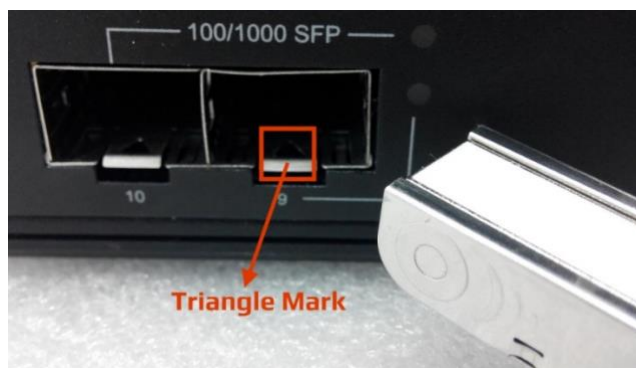
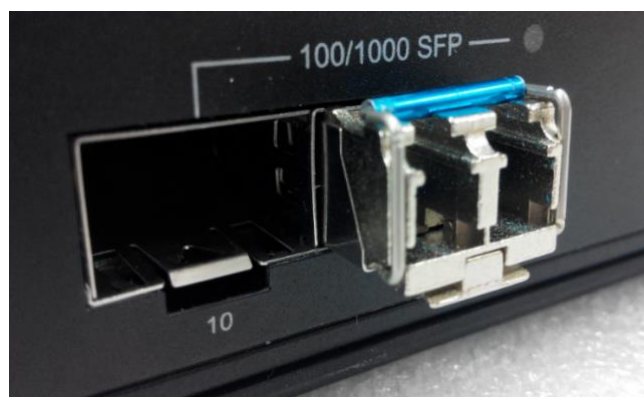

Figure 2.7: Transceiver to the SFP Module
Figure 2.8: Transceiver Inserted
**Step 1** Insert the SFP transceiver module into the SFP slot as shown below in Figure 2.7. Notice that the triangle mark is at the bottom of the SFP slot. Figure 2.8 shows SFP transceiver module was inserted.